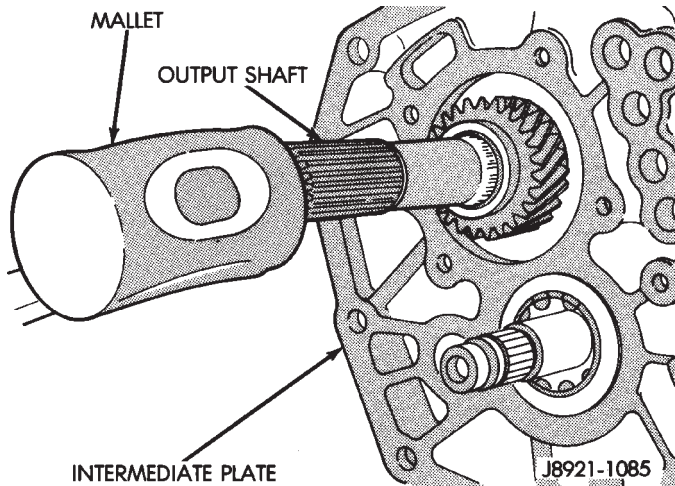

Fig. 55 Unseating Output Shaft Rear Bearing
(3) Tap end of output shaft with mallet to unseat and start rear bearing out of intermediate plate (Fig. 55).